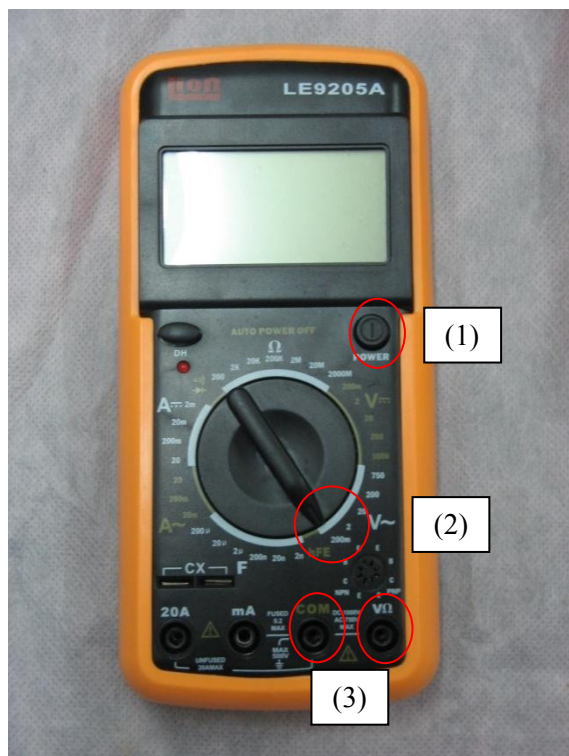

Figure 3: The voltmeter.
- (1) An AC power supply operating on 50Hz. The power supply has two pairs of terminals. The two smaller sockets (1a) supply a voltage of about 24V; use these only for running current through the solenoid. The two larger sockets (1b) supply a voltage of about 0.7V. The power supply is turned on only when the green button (1c) is pressed – this is in order to prevent overheating the system by accidentally leaving the current on, as further explained below. The red light bulb indicates when the power supply is on.
- (2) A cylindrically symmetric solenoid filled with iron rods. The solenoid is connected to the 24V terminals of the power supply. The solenoid can be raised and lowered using a long screw. The screw's vertical step is $h = 1.41\text{mm}$.
- (6-7) Two multimeters. They will be used as a voltmeter and an ammeter. The AC voltmeter's sensitivity is 0.1mV. The ammeter can measure currents of up to 20A (also in AC mode). **Note:** in AC mode, the multimeters display the RMS (root-mean-square) of the measured quantity, i.e. the amplitude divided by $\sqrt{2}$. See Figures 3 and 4 for detailed instructions.